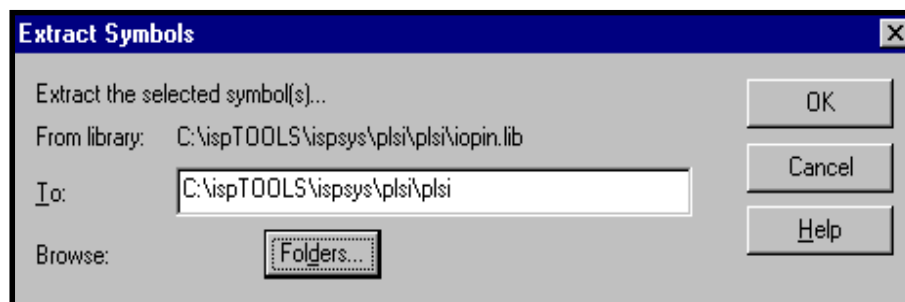

Figure 6-7. Extract Symbols Dialog Box
3. Select **Edit** ⇒ **Extract Symbol(s)**. The Extract Symbols dialog box appears (Figure 6-7).